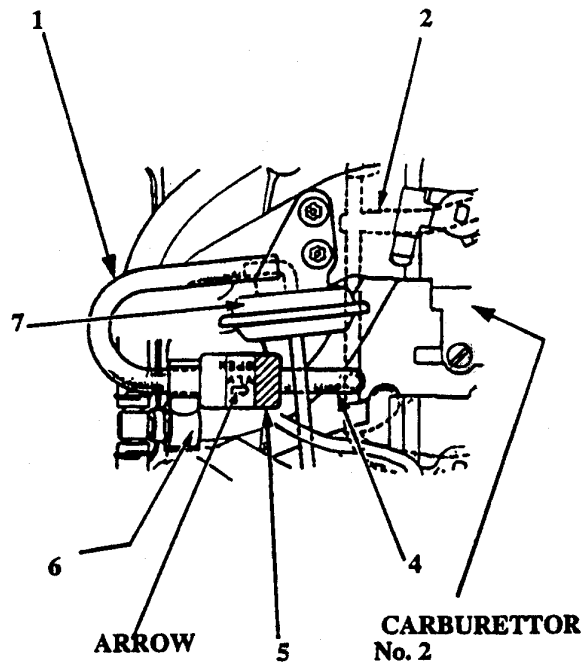

Fig. 14-12 Dashpot check-valve installation
Install diaphragm unit (7) dashpot check valve (5) fuel tube (1) fuel tube (4) fuel-tube clamp (6) and the install pipe (2) – Fig. 14-12 refers.